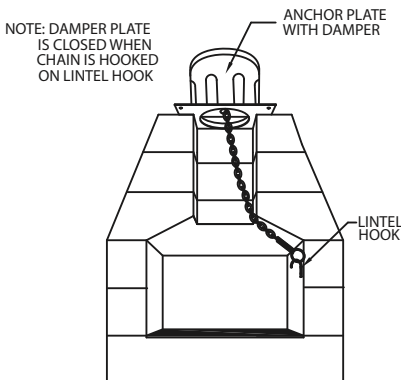

Figure 3
b. Lintel Hook: With the damper plate in the closed (horizontal) position, determine and mark the location for the Lintel Hook. The Lintel Hook should be mounted in a position so as to provide a small amount of tension in the spring attached to the chain (**Fig. 3**). The tension is needed to prevent the damper plate from rattling when closed. Mount the Lintel Hook with the screws provided.